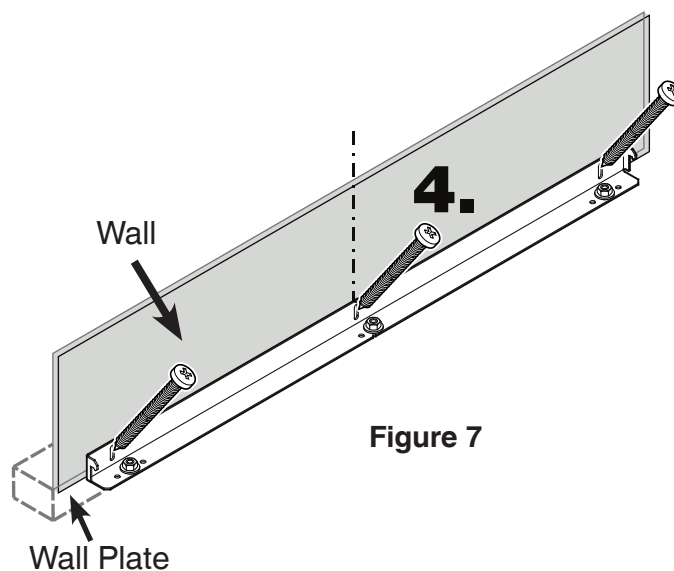

Figure 7
4. Fasten bracket with 3 screws (1/4" x 2-1/8") into the wall plate (Figure 7).